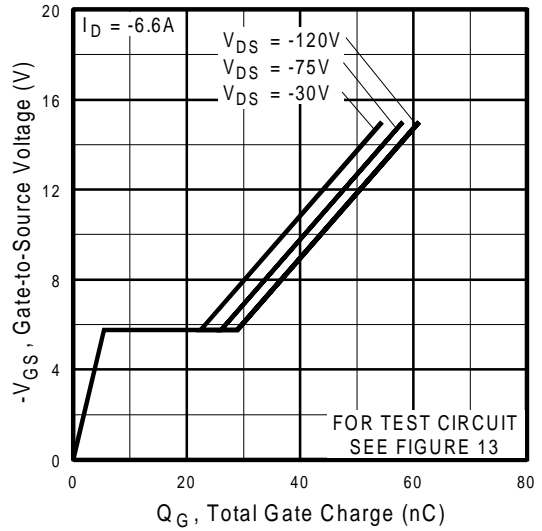

Fig 6. Typical Gate Charge Vs. Gate-to-Source Voltage
| Q _{gd} | Gate-to-Drain ("Miller") Charge | — | — | 35 | | V _{GS} = -10V, See Fig. 6 and 13 ④⑥ |